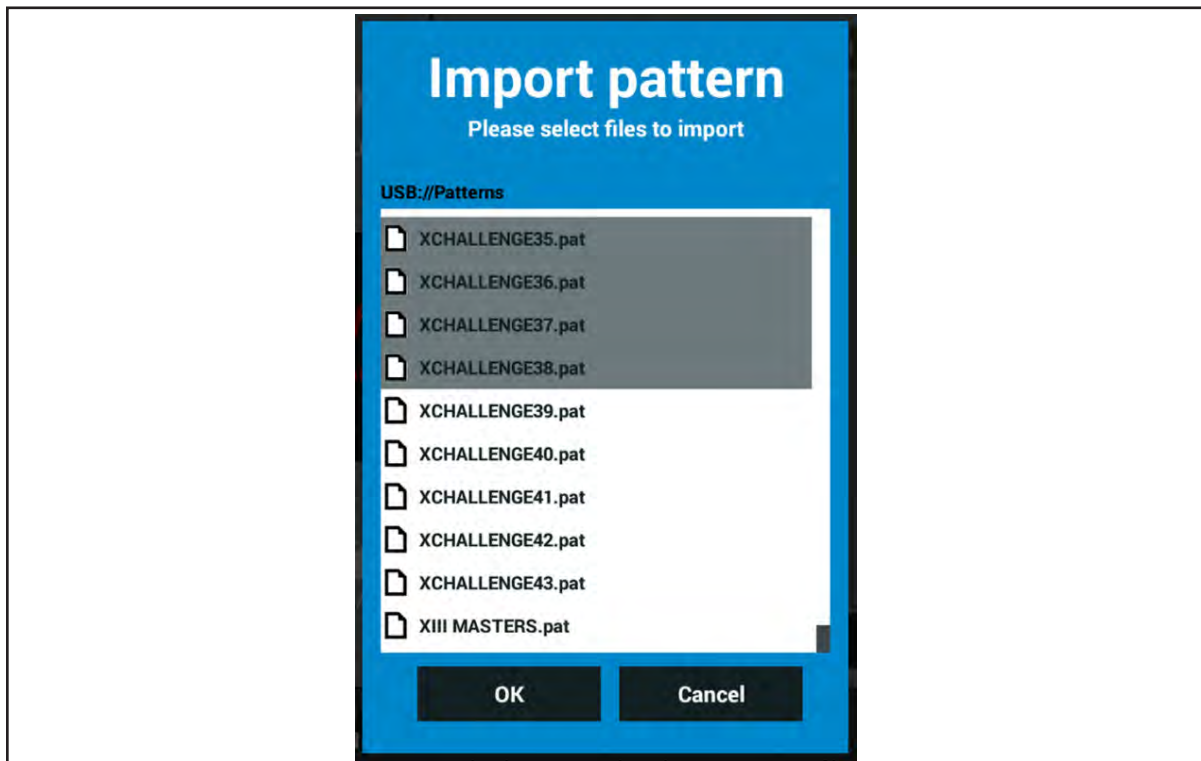

Figure 4-18. Select Patterns
5. Select the pattern you would like to Import into the tablet. You may select multiple patterns at the same time. Refer to *Figure 4-18*.